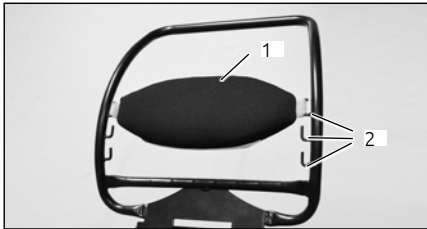

Fig.:19
4. In addition, you have the option of adjusting the lumbar support (see "Fig.:19 (1)") in height; proceed as follows:
2. You can attach the lumbar support in three different positions (see "Fig.:19 (2)"). Attach the lumbar support at a comfortable height for you.